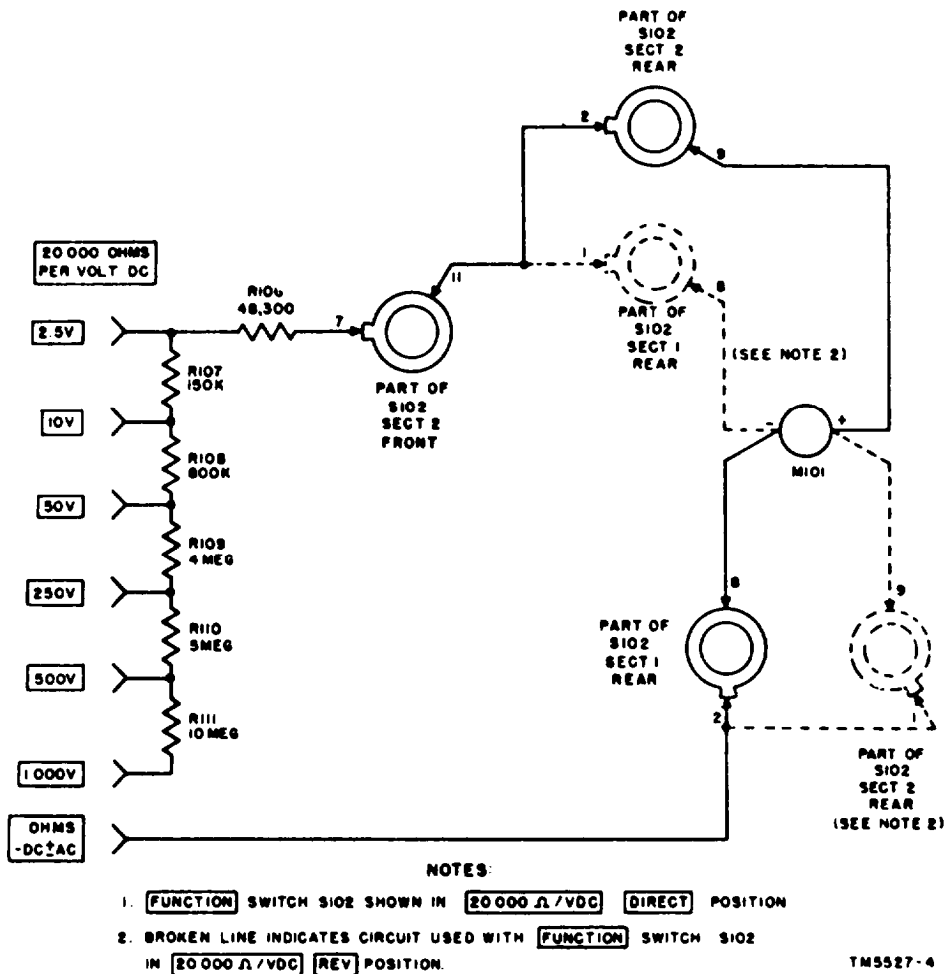

Figure 4-3. Dc voltmeter circuit (20,000 ohms per volt), simplified schematic diagram.
4-3. Dc Voltmeter Circuit (20,000 Ohms Per Volt) (fig. 4-3)
- (1) With the application of a dc voltage between the 1000V jack, and the OHMS — DC \pm AC jack, current flows through the meter and through the series-connected multiplier resistors RI06, RI07, R108, R109, R110, and R111.
- (2) With FUNCTION switch S102 in the 20000 Ω /VDC DIRECT position, the terminals of the switches shown in figure 4-3 are connected in a circuit arrangement that directs the current through the meter, as shown by the solid lines.
- (3) With FUNCTION switch S102 in the 20000 Ω /VDC REV. position, the circuit is so arranged that multi meter jacks marked with the voltage values are connected to the *negative* side of the voltage source. Current flow through meter M101, however, remains in the same direction. This current path is shown in figure 4-3 as a broken line portion of the entire circuit.